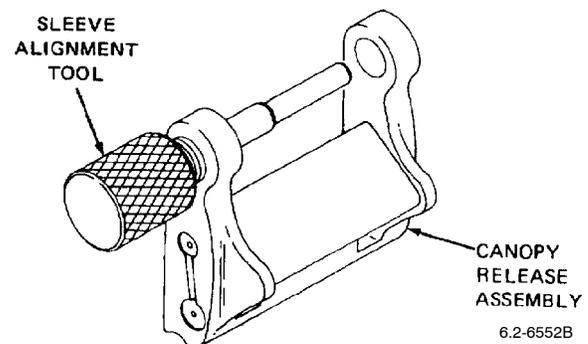

Figure 7. Trial Fit Sleeve Alignment Tool
h. Trial fit sleeve alignment tool into holes in both sides of release. If any of above trial fit procedures should fail use another canopy release and repeat steps until proper fit is achieved (Figure 7).